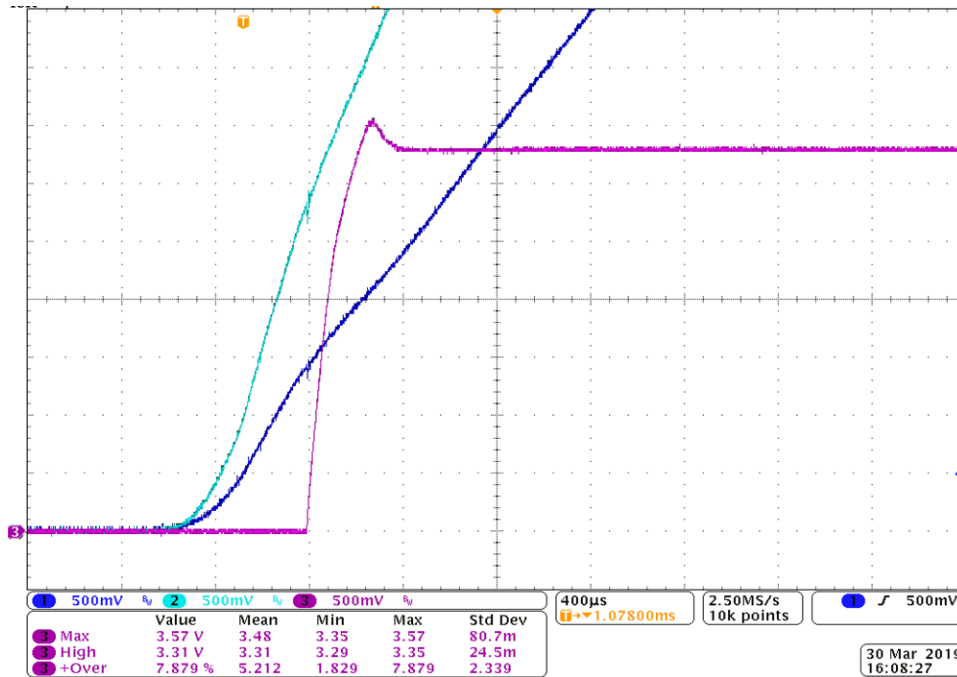
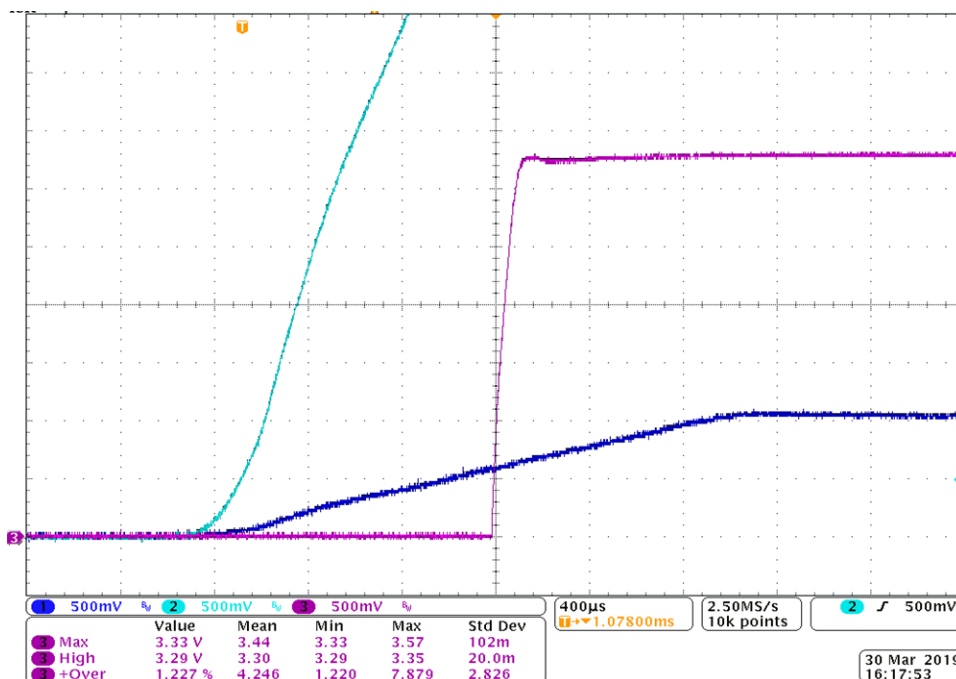

Figure 10. No Sequence With Overshoot
Figure 11. Add Sequence Without Overshoot
- Sequence the  $V_{IN}$  and  $V_{EN}$  signals to let the  $V_{IN}$  reach the required value before the LDO is enabled. The comparison is displayed in Figure 10 and Figure 11 (Green:  $V_{IN}$ ; Red:  $V_{OUT}$ ; Blue:  $V_{EN}$ ). The  $V_{EN}$  signal is created using a resistor divider from the  $V_{IN}$ .  $R1 = 10\text{ K}$  is close to the  $V_{IN}$ ,  $R2$  is close to the GND. In Figure 10  $R2 = 10\text{ k}\Omega$ , and in Figure 11  $R2 = 1\text{ k}\Omega$ .